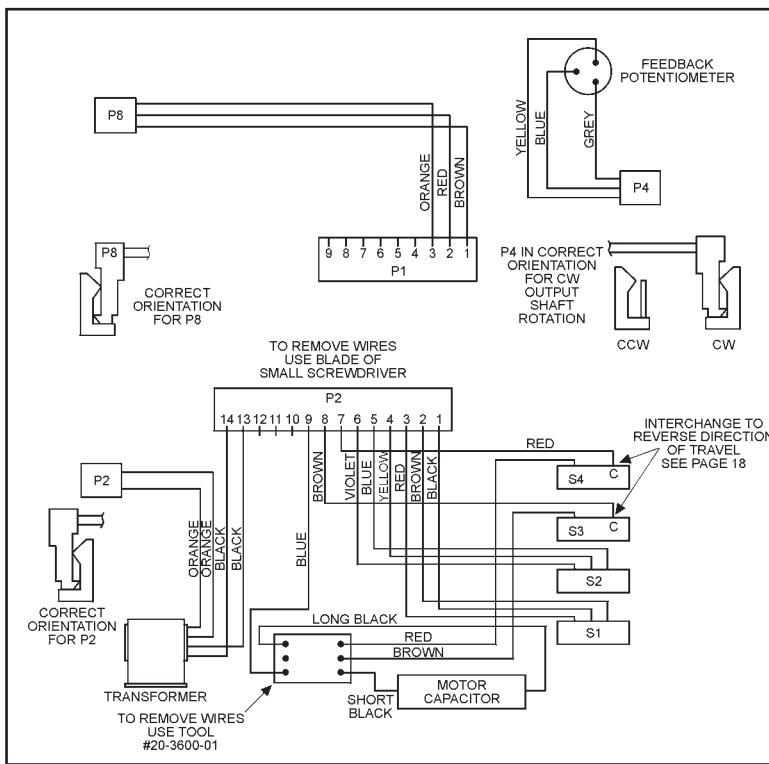

Figure 14
6. Disconnect plugs P1, P2, P3, P4, P8, and P9 from the control board. See Figures 14 and 15, Option 2 and 3 Wiring Diagram, for correct location to reconnect plugs.
11. Cut the cable tie holding the switch and transformer wires to the control module standoff. Remove the switch to be replaced and disconnect the wires. Before replacing the switch, reconnect the wires. Refer to Figures 14 and 15, Option 2 and 3 Wiring Diagram, for proper wire connections. **IMPORTANT:** Switch and transformer wires must be properly secured to the control module standoff to prevent interference with the control module cover.
12. Cut the cable tie holding the switch and transformer wires to the control module standoff. Remove the two black transformer wires from plug P2. To remove, insert the blade of a small screwdriver into the slot on the plug opposite the wire entrance. This will release a tang holding the wire termination into the plug. See Figures 14 and 15, Option 2 and 3 Wiring Diagram, for correct location to replace wires. **IMPORTANT:** Switch and transformer wires must be properly secured to the control module standoff to prevent interference with the control module cover.
14. Cut the cable tie holding the motor capacitor to its mounts. Use wire removal tool, BECK part number 20-3600-01, to remove the two capacitor wires from the six position plug. Refer to Figures 14 and 15, Option 2 and 3 Wiring Diagram, for proper wire locations. Replace capacitor on mounts and secure with two cable ties.